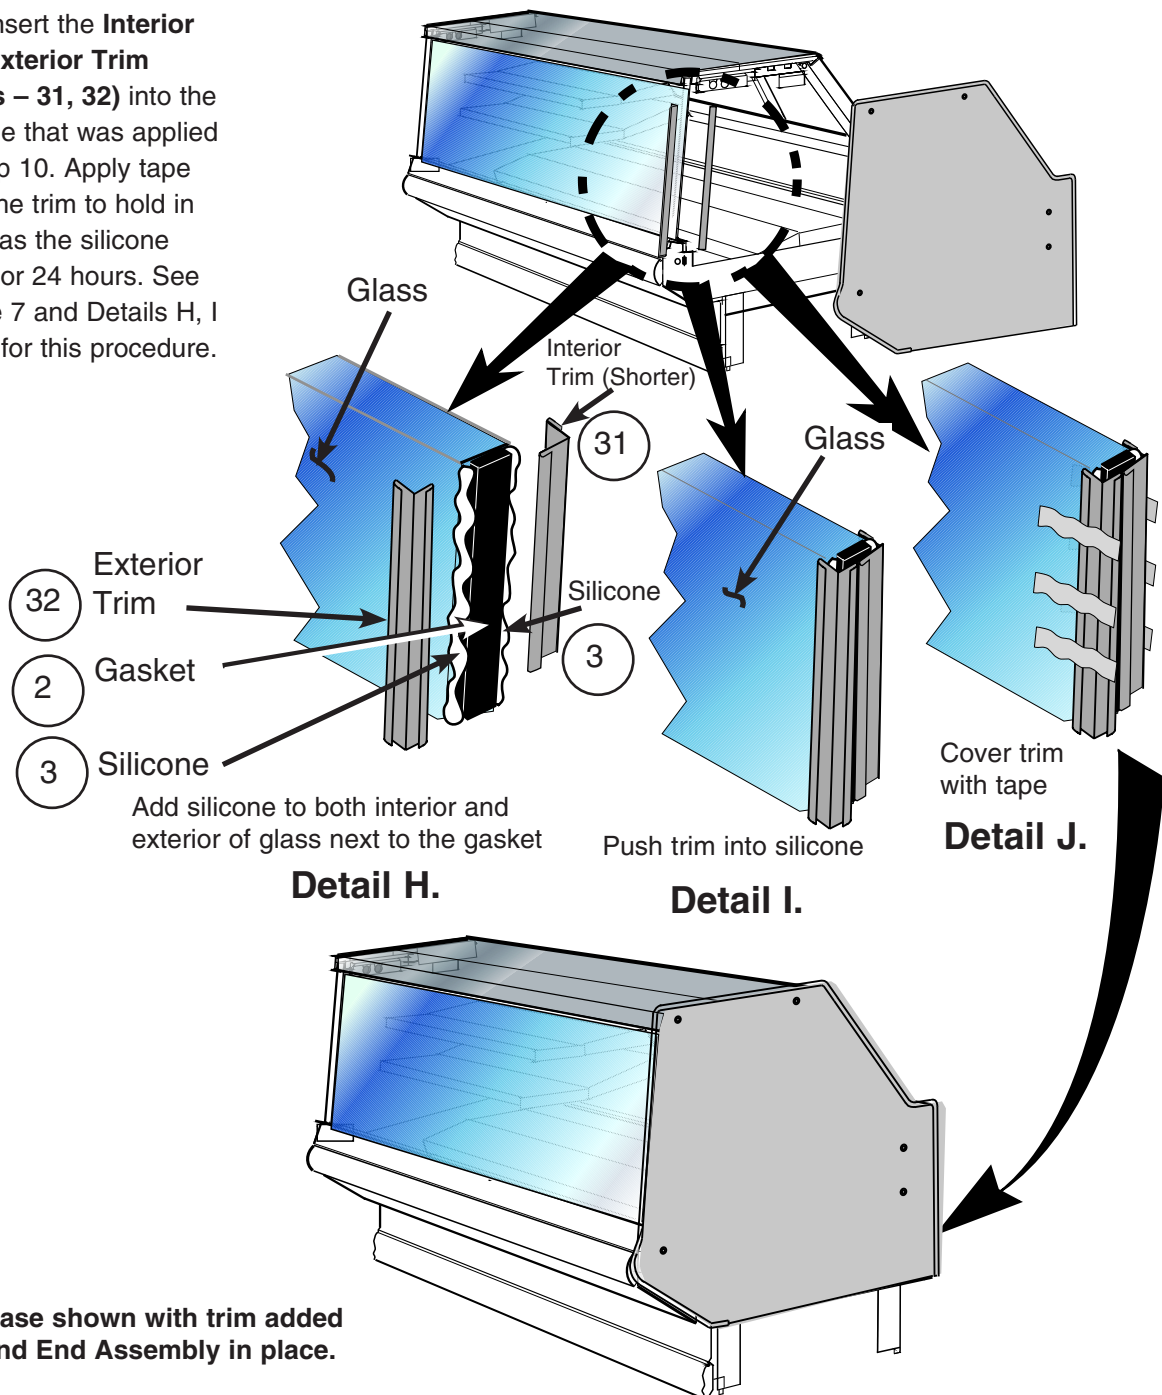

Figure 7. Sealing and adding Trim to the Front Glass and End of Case
- 11** While the silicone is still wet, insert the **Interior and Exterior Trim (Items – 31, 32)** into the silicone that was applied in Step 10. Apply tape over the trim to hold in place as the silicone dries for 24 hours. See Figure 7 and Details H, I and J for this procedure.